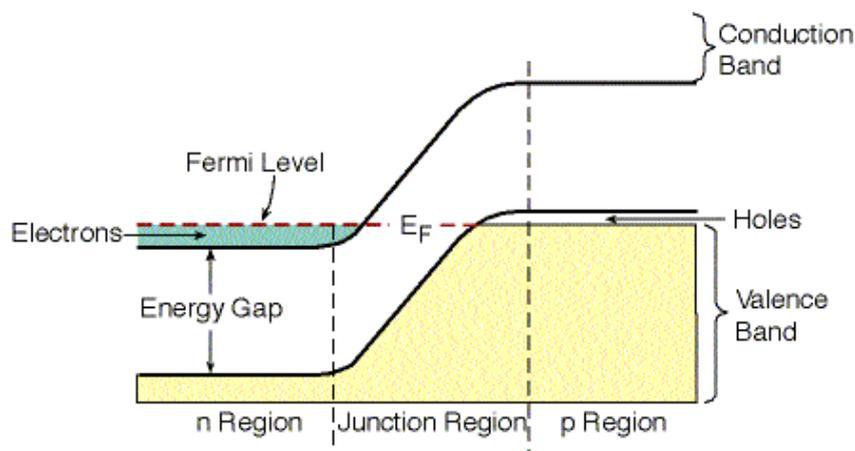

Figure 5.16: Energy levels in a p-n junction which is not attached to a voltage
**This junction conducts electricity in a preferred direction** (forward biased). Figure 5.16 displays the energy bands of an ideal p-n junction without any external voltage applied to it.